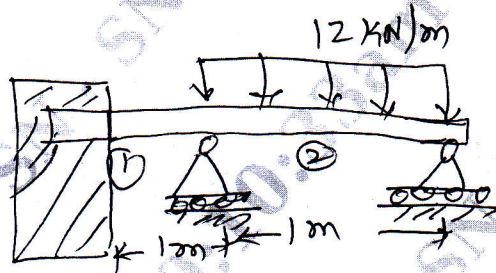

Fig.Q6(a)  $E = 200 \text{ GPa}$   $I = 4 \times 10^6 \text{ mm}^4$
- 6 a. Solve for vertical deflection and slopes at point 2 and 3 using beam elements for the structure shown in Fig.Q6(a). Also determine deflection at the center of the portion of the beam carrying UDL.